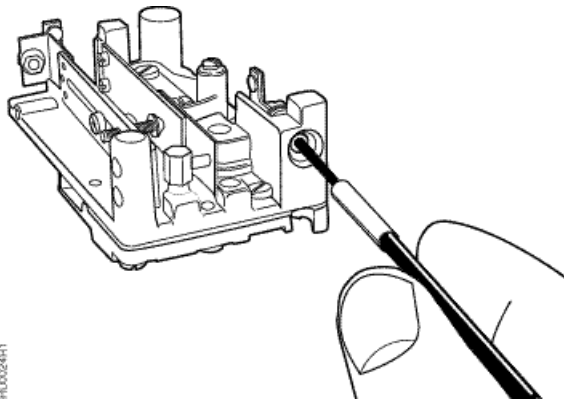

Figure 3. Room Transmitter Chassis Bottom View.
4. Only a zero adjustment is possible in the field. Use the zero adjustment screw (See Figures 3 and 4). No other adjustments should be made.
- a. **Room** - The cover should remain on the unit during calibration. It has a hole in the bottom that permits access to the zero adjustment screw without removing the cover. See Figure 3.